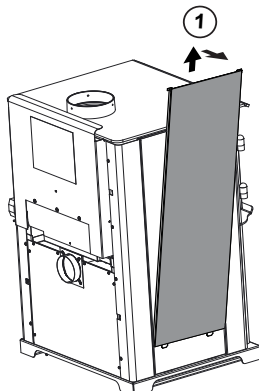

Figure 24.4
1. Remove solid panel from side by lifting up and pulling away from appliance (use a flat tool to pry from bottom if needed) (**Figure 24.4**).
4. Reattach tile frame (**Figure 24.4**).